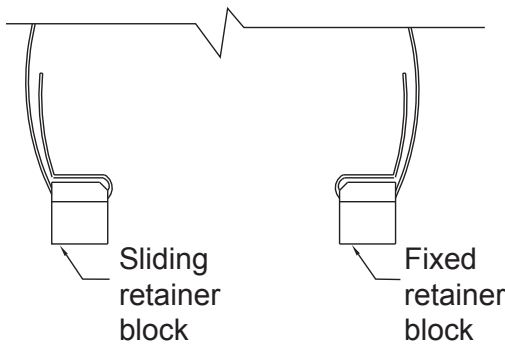

Figure 3
Step 5: Bend the strap at both Retainer Blocks, near the non-beveled ends to allow the Carriage Bolt to easily pass through each of the Retainer Blocks (Figure 3 and 4).